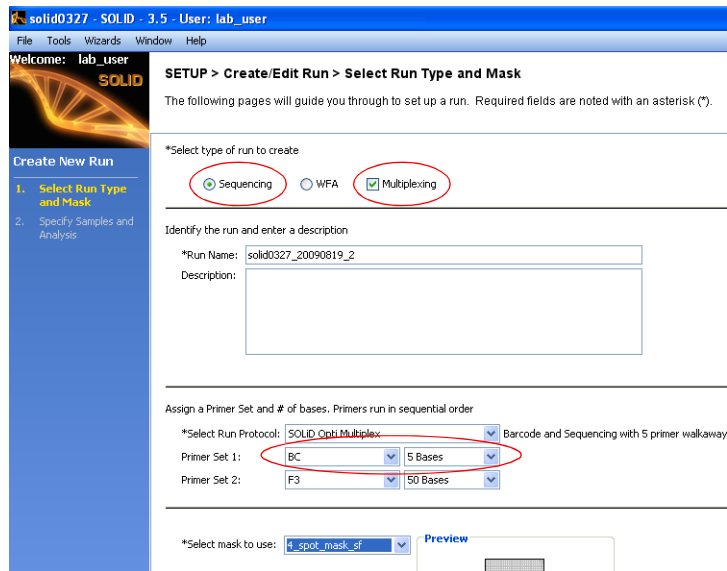

Figure 50 Complete the information in the Select Run Type and Mask pane.
2. Complete the information in the Select Run Type and Mask pane (see Figure 50):